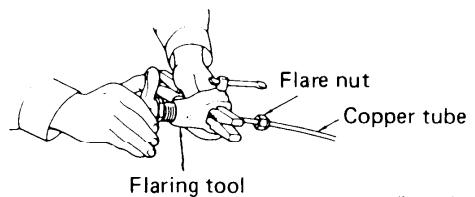

Fig. 24
- d) Make a flare at the end of copper tube with a flaring tool* Fig. 24 (*Use "RIGID" or equivalent.)